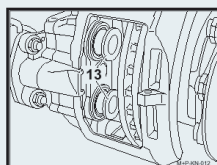

Figure 29
- With pistons extended, carefully inspect the piston boots for cuts, tears, or burns; and ensure that they are properly seated. (See **Figure 29**.) If